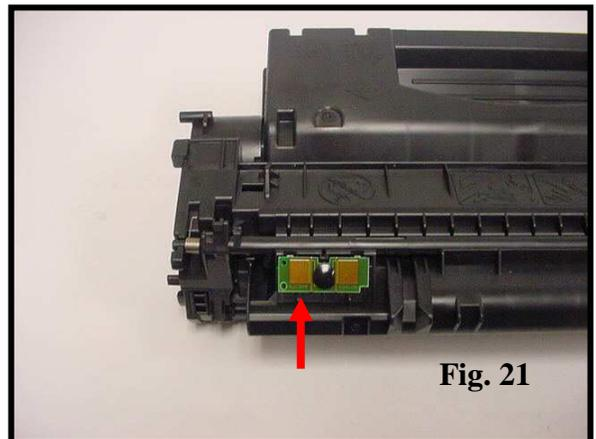

Fig. 21
21. Remove the OEM chip from the cartridge. Replace with the appropriate chip (Fig. 21).